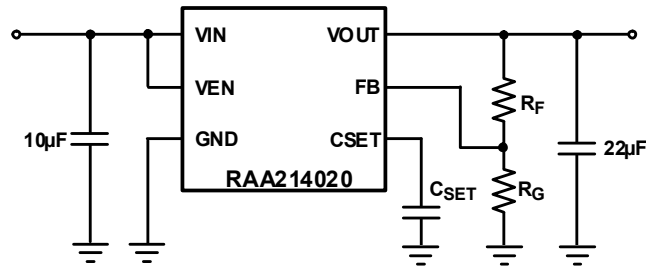

Figure 1. RAA214020 Simplified Application Schematic
The RAA214020 output voltage (V_{OUT}) can be programmed down to 0.9V and up to $5.5V - V_{DO}$ using the feedback (FB) resistors, R_F and R_G , as shown in Figure 1.